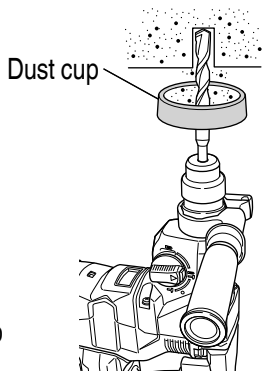
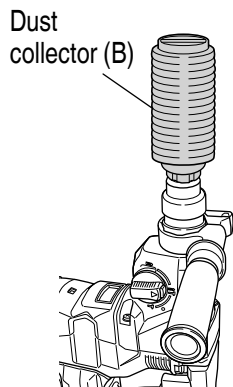

Fig. 13
Fig. 14
(Optional accessories) (**Fig. 13, Fig. 14**)
Use the dust cup by attaching to the drill bit as shown in **Fig. 13**.
- Installing dust collector (B)
When using dust collector (B), insert dust collector (B) from the tip of the bit by aligning it to the groove on the grip. (**Fig. 14**).